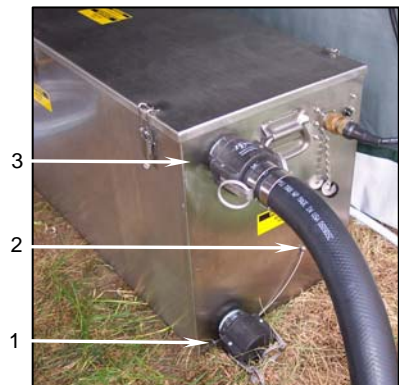

Figure 3. Emptying Water from Grease Separator without the Pump and Bypassing the Pump.
- a. Place an absorbent pad under the lower grease separator outlet adapter (**Figure 3, Item 1**).
- c. Disconnect the 50-ft drain hose (**Figure 3, Item 2**) from the upper grease separator outlet adapter (**Figure 3, Item 3**).
- d. One person removes the cap from the lower grease separator outlet adapter (**Figure 3, Item 1**) while a second person quickly connects the drain hose to the lower adapter.
- f. After the grease separator is completely drained, disconnect the sink drain hose assembly (**Figure 3, Item 4**) from the grease separator inlet (**Figure 3, Item 5**), disconnect the 50-ft grease separator drain hose (**Figure 3, Item 2**) from the lower outlet adapter (**Figure 3, Item 1**), and connect the grease separator drain hose directly to the sink drain hose.
- g. Reinstall the cap on the lower grease separator adapter (**Figure 3, Item 1**).